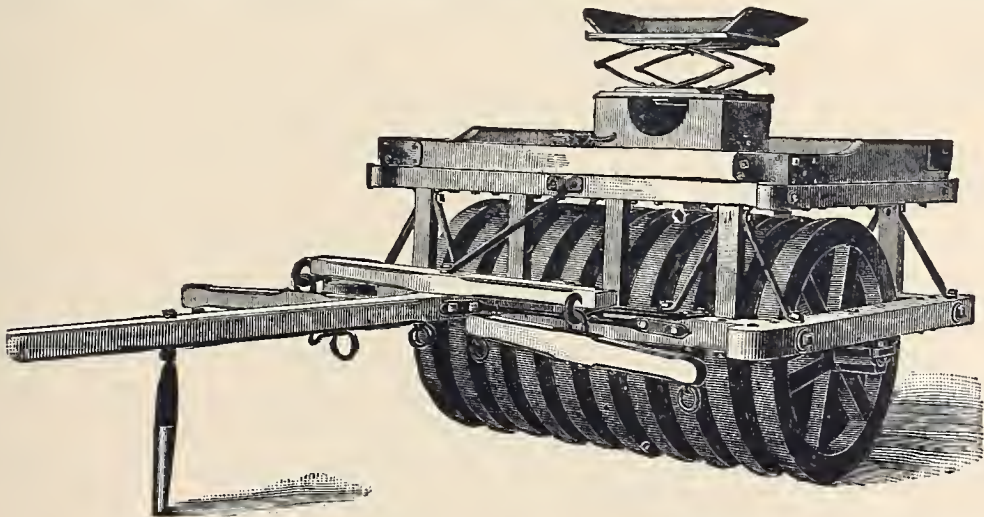

Fig. B 346.—Road Roller.
*The Road Roller*, of which we present an illustration at *Fig. B 346*, is for roadways, streets, etc., and is especially desirable for macadamizing. Every city and town, and proprietors of parks and cemeteries, should be supplied to insure good roads.